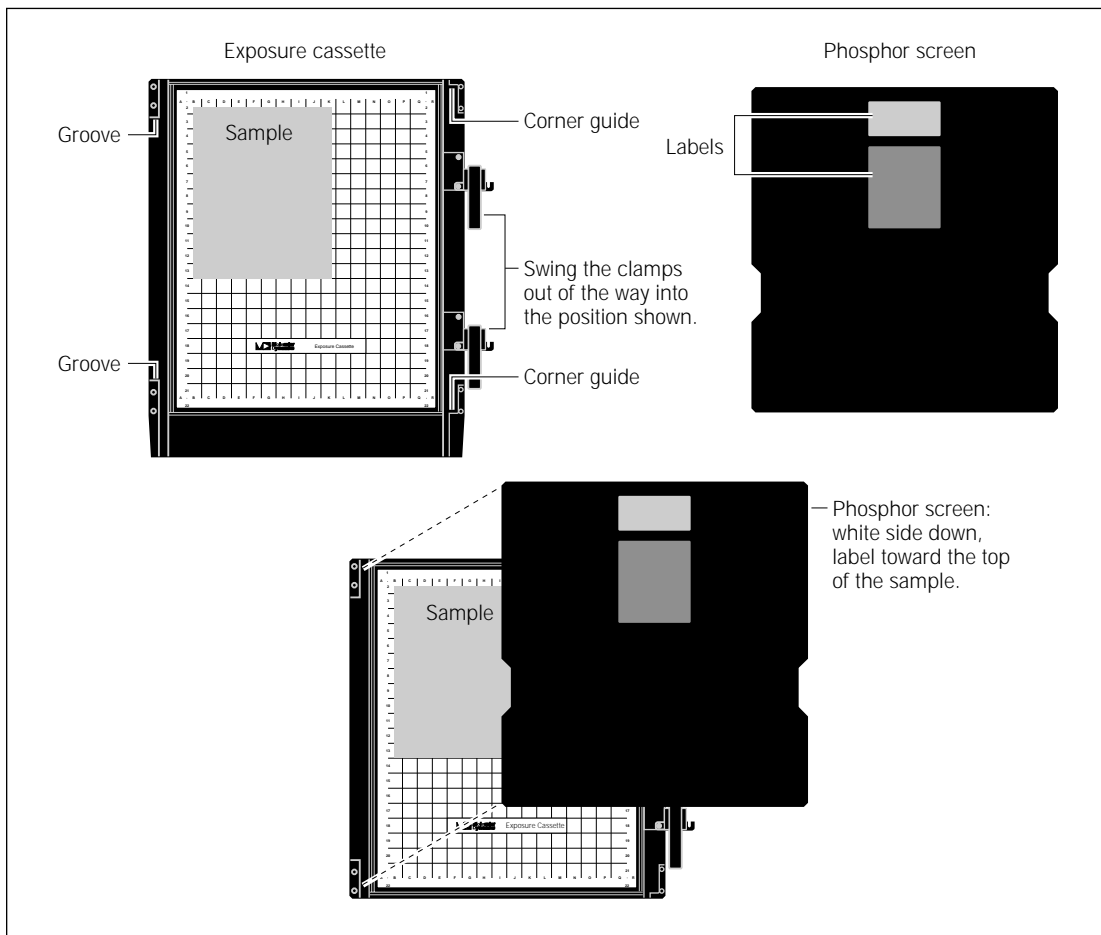

Figure 5-3. Loading the large-format mounted screen into the exposure cassette.
3. Note the groove along the side of the exposure cassette opposite the clamp(s). Place the edge of the screen into the groove. The white side of the screen should face down, toward the sample. Place the top of the label on the screen toward the top of the cassette (figure 5-3).